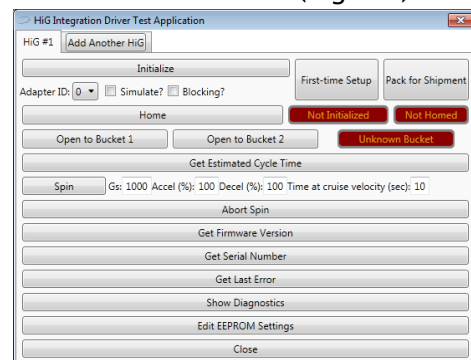

Fig.3-8 HiG Integration Driver Test Application screen
4. Locate the HiG3 software desktop shortcut and launch the HiG3 Integration Driver Test Application. The screen shown in Fig. 3-8 will appear.